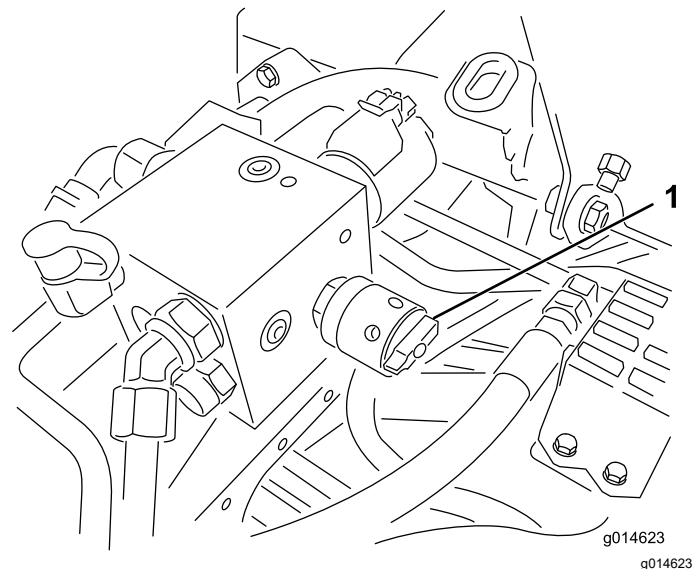

Figure 61
6. Rotate the reel-speed control to setting 1 (Figure 61).
4. Adjust the reel speed by rotating the knob (Figure 61) until the indicator arrows are in line with the number you determined in step 3.